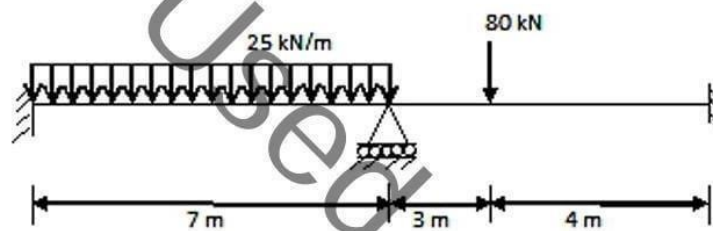

Figure 6
9. Analyse the continuous beam shown in the figure 6 using Flexibility Method. Draw shear force and bending moment diagrams. Assume constant EI throughout the beam. Also draw Elastic curve. [10]